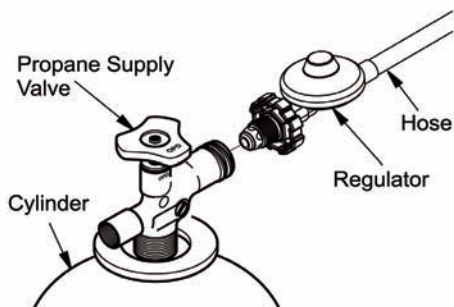

Figure 6
7. Connect the regulator to the gas cylinder and use a spanner wrench to tighten the connection (Fig. 6).